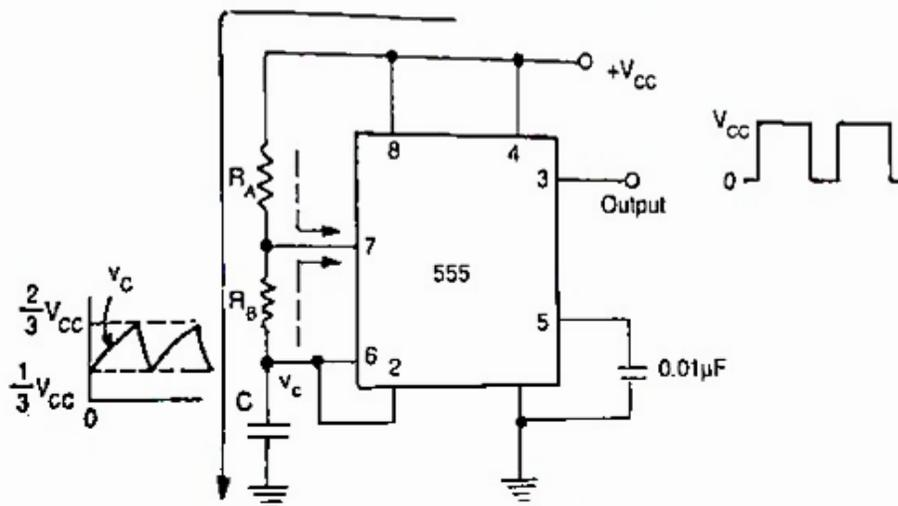
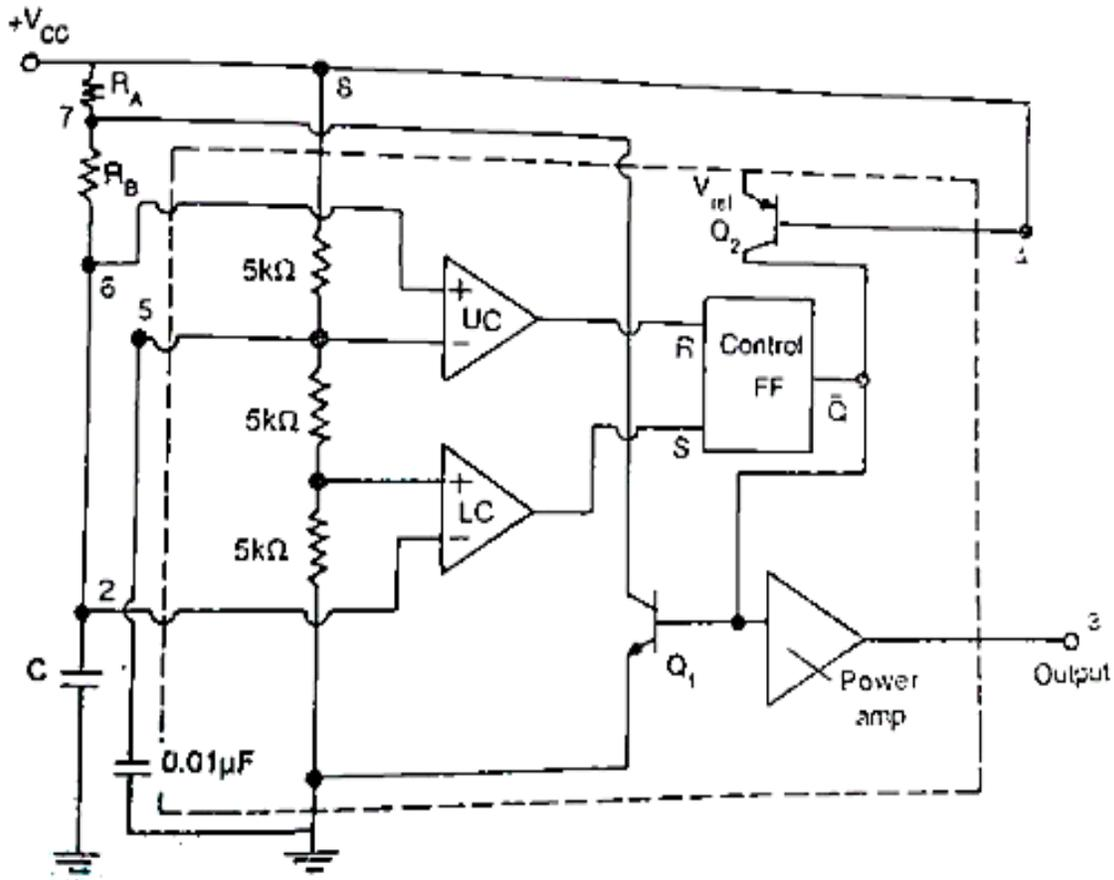

Figure 15: Astable multivibrator using 555 timer
Figure 16: Functional diagram of astable multivibrator using 555 timer
4. With neat diagrams, explain the working of IC555 in Astable mode. (8) [May/June 2011] [April/May 2015]
- The device is connected for an Astable operation as shown in Fig. 15. For better understanding, the complete diagram of an Astable multivibrator with detailed internal diagram of 555 is shown in Fig. 16.
- With the circuit configuration of Fig. 15, it is not possible to have a duty cycle more than 50% since $t_{HIGH} = 0.69 (R_A + R_B) C$ will always be greater than $t_{LOW} = 0.69 R_B C$.